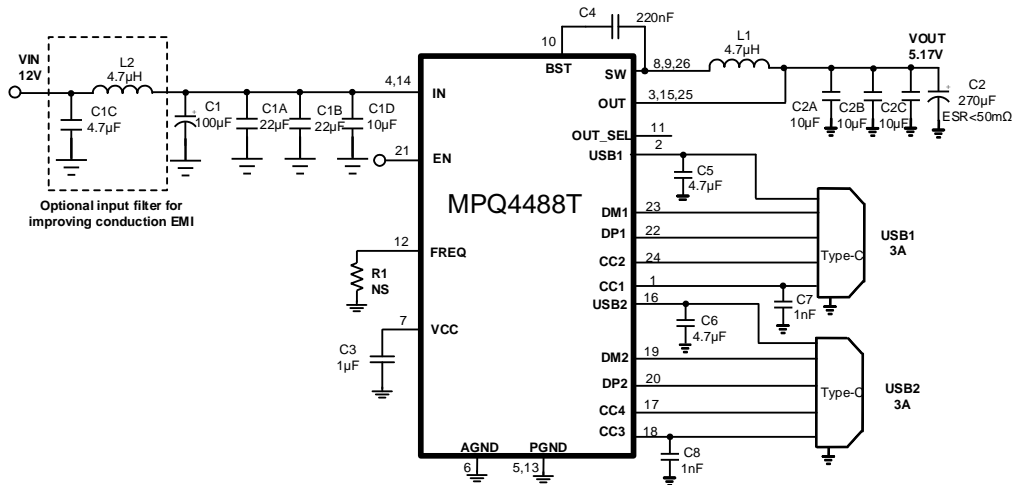

Figure 13: Dual USB Type-C 5V/3A DFP Ports (13)
12) The recommended layout is based on the Typical Application Circuits in Figure 13 through Figure 15.